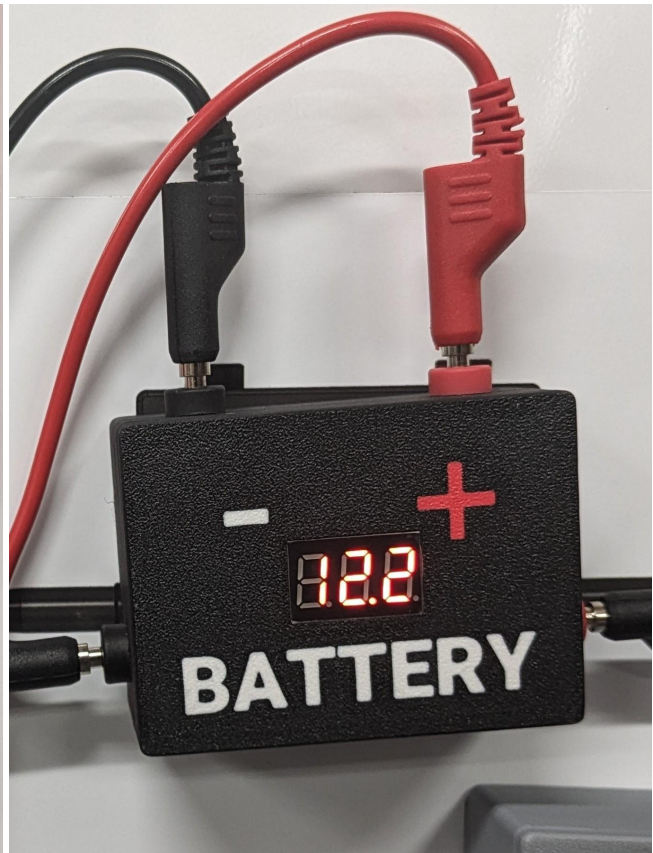

Figure 6: POWER SUPPLY Connection Figure 7: BATTERY Connection
- Connect the POWER SUPPLY WIRES to the jacks of the POWER SUPPLY as shown in Figure 6